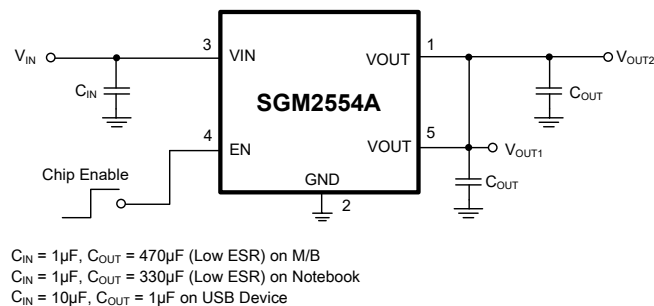
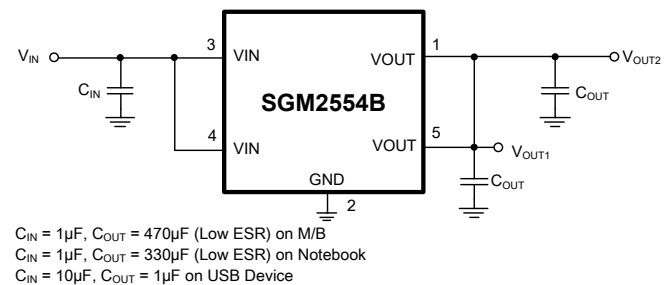

Figure 1. High-side Power Switch with Chip Enable Control
Figure 2. High-side Power Switch
- If the package is with dual VOUT or VIN pins, short both the same function pins as in Figure 1 or Figure 2 to reduce the internal turn-on resistance. If the output power will be delivered to two individual ports, it is specially necessary to short both VOUT pins at the switch output side in order to protect the switch when each port is plugged-in separately.